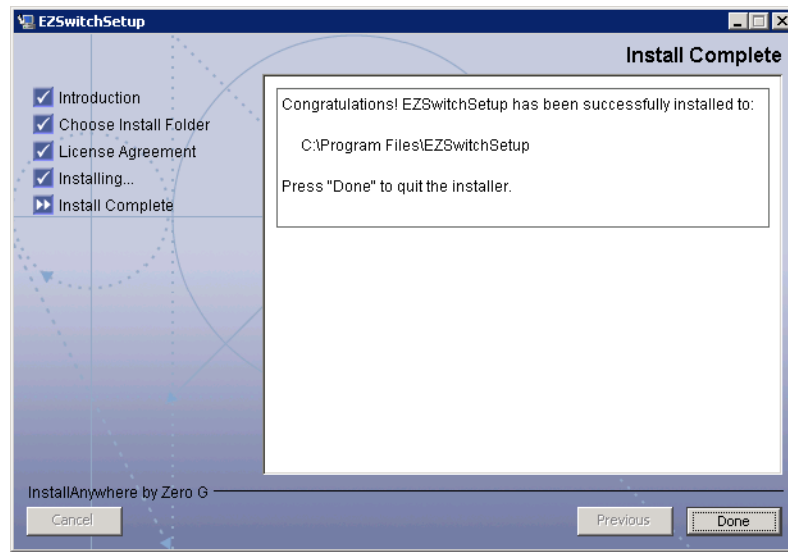

FIGURE 3 EZSwitchSetup Installer
3. Click **Done** on the last screen (shown in Figure 3 on page 6) to exit the installer.